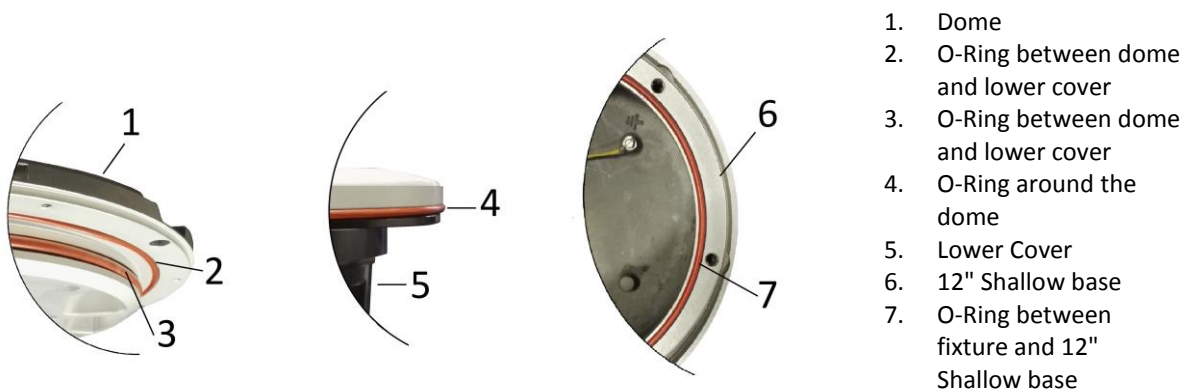

Figure 23– Fixture Gaskets
- two O-Ring between dome and lower cover (Figure 23 - n°2 and 3);
- O-Ring around the dome (Figure 23- n°3);
- O-Ring between fixture and 12" shallow base (Figure 23 - n°7);